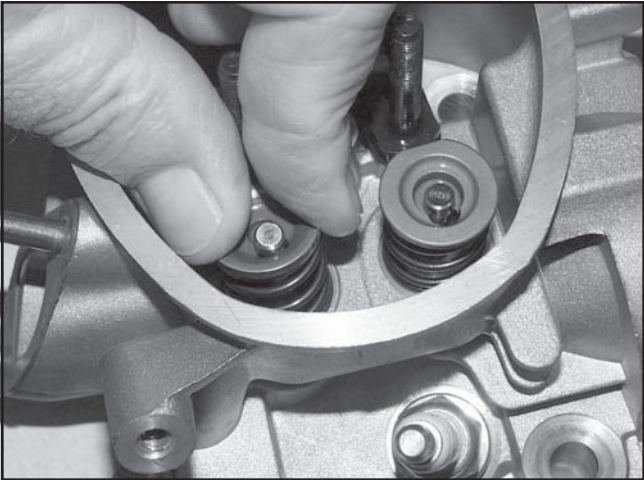

Figure 11-45. Installing Valve Retainers.
3. Install the valve springs and retainers into their respective locations in the cylinder head. Support the valve heads from underneath. Using hand pressure, compress each valve spring and slide each retainer onto the valve stem to lock in place. See Figure 11-45.